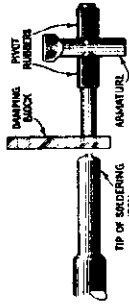

Figure 9—Replacing Damping Block
- (d) After properly locating the damping block, a soldering iron should be applied to the armature so that the block will melt slightly at its point of contact with the armature. A special tip, constructed as shown in Figure 9, will prove desirable for fusing the block in place. The iron should be applied only long enough to melt the block sufficiently to cause a small bulge on each side, and must be removed before any bubbling occurs. The pickup should then be reassembled.